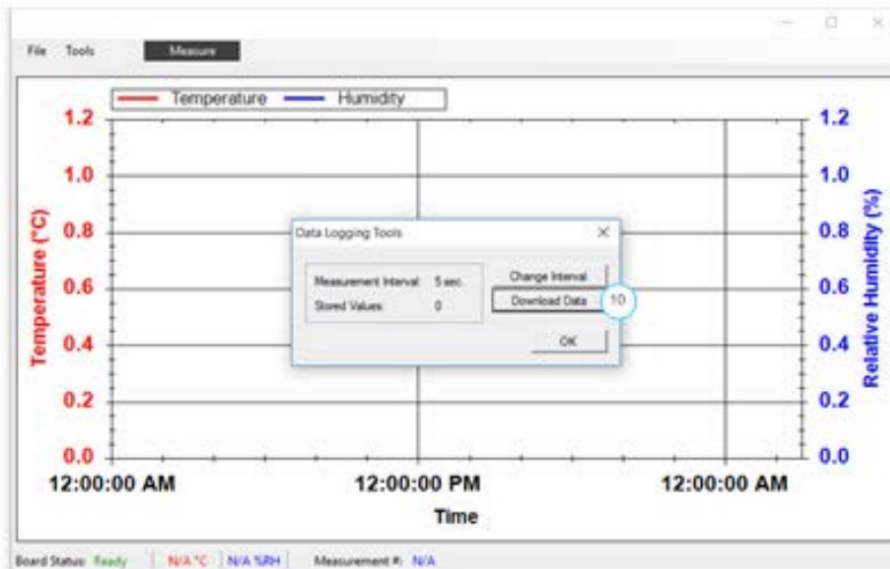

Figure 8. Download Data to Demo Software
5. In the software, select Data Logging from the Tools menu and click on the Download Data button 10 **as shown in Figure 8**. The maximum number of measurements that can be stored on the board is 2000.